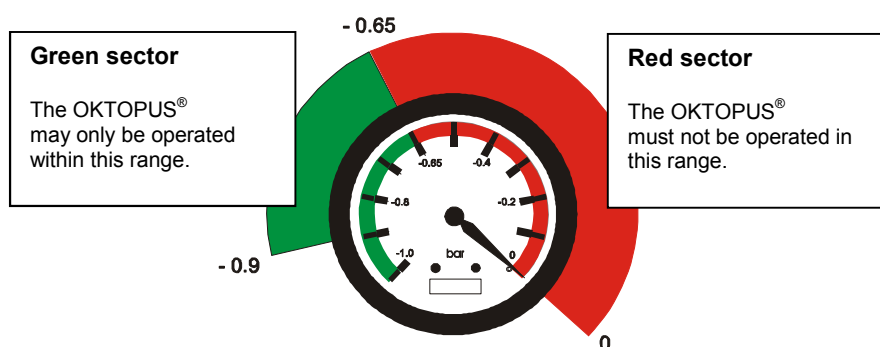

Fig. 9: Vacuum gauge
Mounted to the crane, the OKTOPUS® GLASS-Jack GL-RN 400/600/800 is ready for operation as soon as sufficient vacuum is provided in both vacuum reservoirs. The current vacuum level is constantly indicated via two vacuum gauges (fig. 9).
- ⇒ After the warning light and the buzzer have both gone out, the vacuum gauge indicates that the working range has been reached (see fig. 9) and you have made sure, that no one stays in the danger area, you can lift the load.